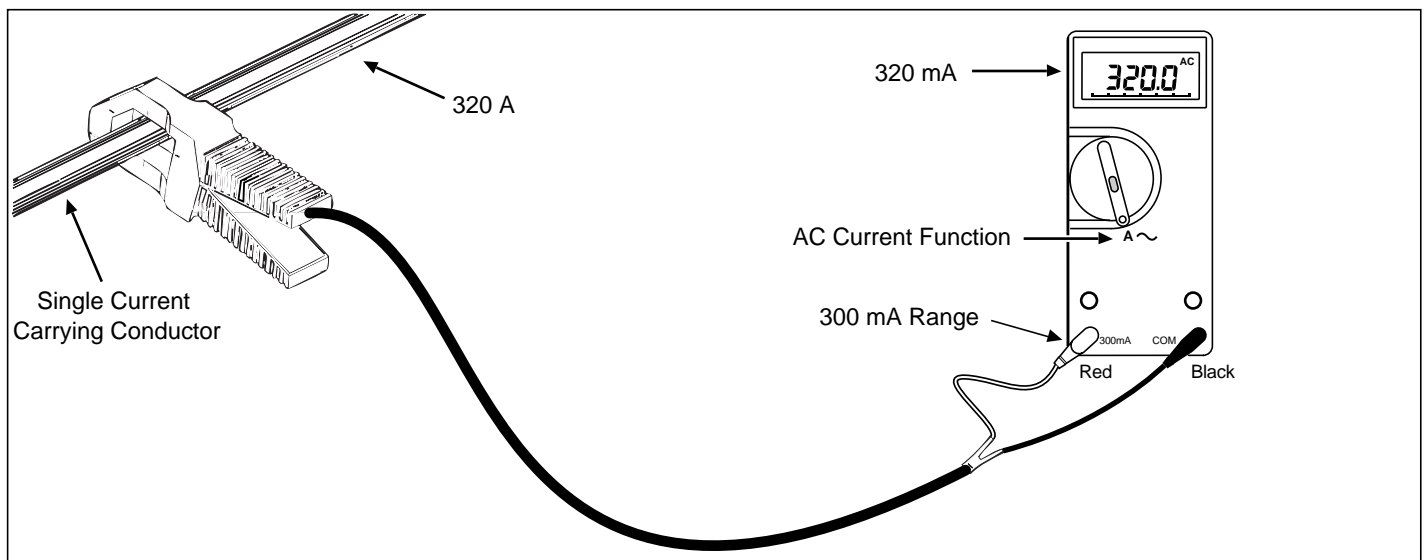

Figure 1. Typical 80i-400 Using a Typical Meter
When the 80i-400 is connected to a compatible current meter and clamped around a single current-carrying conductor, the meter reading will be 1/1000th of the actual current in the conductor. For example, a 5-ampere (A) input current will be transformed into a 5-milliamper (mA) output current (see Figure 1).
3. Clamp the probe around the current-carrying conductor to be measured (see Figure 1). Make sure the probe jaws are tightly closed around the conductor. The probe is designed for highest accuracy when the conductor is centered on the jaw alignment marks.
4. Multimeter readings displayed in milliamps (mA) can be read directly as amperes of input current. Readings displayed in amperes (A) must be multiplied times 1000 to obtain the amperes of input current.